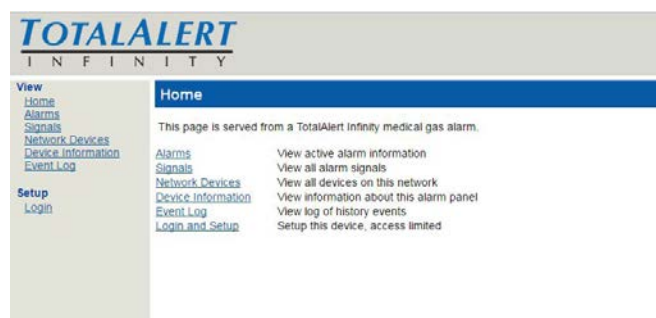

Figure 232
3. After you enter the IP address, the alarm's home page will be displayed. (See Figure 232)